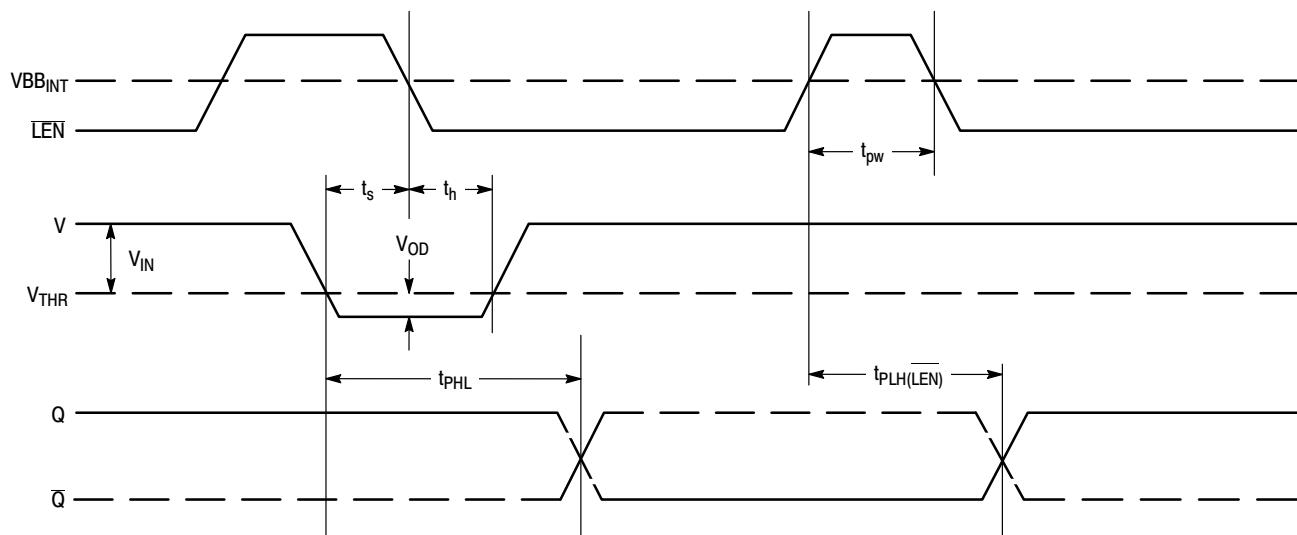

Figure 5. Input/Output Timing Diagram
12. Refer to Figure 5 and note that the input is at 2.5 V TTL levels with the input threshold range between the 20% and 80% points. The delay is measured from the crosspoint of the input signal and the threshold value to the crosspoint of the Q and \overline{Q} output signals.
The timing diagram (Figure 5.) is presented to illustrate the MC10E1652's compare and latch features. When the signal on the \overline{LEN} pin is at a logic high level, the device is operating in the "compare mode," and the signal on the input arrives at the output after a nominal propagation delay (t_{PHL} , t_{PLH}). The input signal must be asserted for a time, t_s , prior to the negative going transition on \overline{LEN} and held for a time, t_h , after the \overline{LEN} transition. After time t_h , the latch is operating in the "latch mode," thus transitions on the input do not appear at the output. The device continues to operate in the "latch mode" until the latch is asserted once again. Moreover, the \overline{LEN} pulse must meet the minimum pulse width (t_{pw}) requirement to effect the correct input-output relationship. Note that the \overline{LEN} waveform in Figure 5. shows the \overline{LEN} signal swinging around a reference labeled $V_{BB_{INT}}$; this waveform emphasizes the requirement that \overline{LEN} follow typical ECL 10KH logic levels because